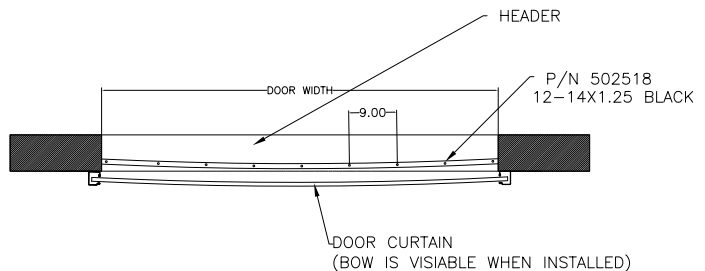

Figure 15
11.1 Close the door before installing the draft stop. Note that with the door down, the curtain may “bow” slightly near the top; this bowing is normal. For the draft stop to be effective, it should follow the “bow” in the door curtain so that it stays in contact across the entire width of the door curtain. Starting at one end, attach to header every 9” with appropriate fasteners. If necessary, trim excess at other end. See Figure 15.